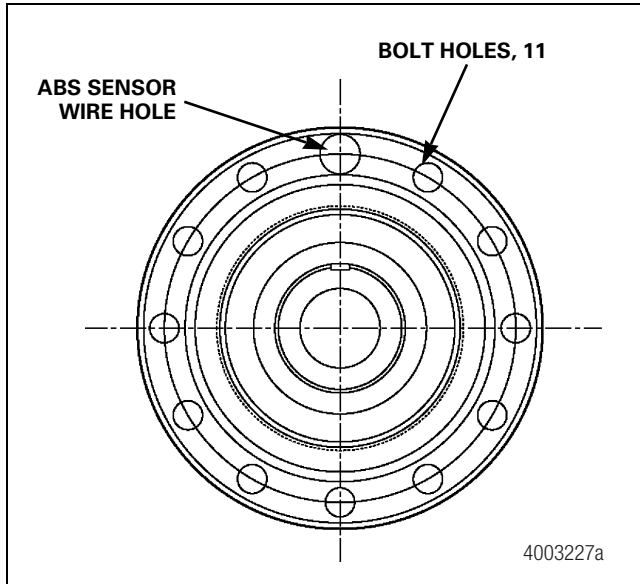

Figure 6.28
- **For a 12-hole flange:** Fasten the brake by installing the correct 9/16-inch (14.288 mm) diameter fasteners through the eleven 0.594-inch (15 mm) holes. Tighten the fasteners to 130-165 lb-ft (176-224 N•m). Figure 6.28.